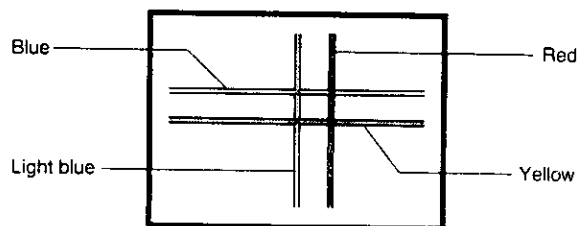

Fig. 2 Horizontal and vertical misalignment
- 4 If you see separate colored lines (Fig. 2 to 4), use the R/B, ◀, ▶, ▲, and ▼ keys on the remote control unit to make the red and blue lines disappear into the other lines. Pressing the R/B key alternates the controlled (red or blue) line. Pressing the ◀ key moves the vertical line to the left, while pressing the ▶ key moves the vertical line to the right. Pressing the ▲ key moves the horizontal line upward, while pressing the ▼ key moves the horizontal line downward. In figure 2, for example, press the R/B key to control the red line, and then press the ◀ key until the red line converges. Press the R/B key again to control the blue line, and then press the ▼ key until the blue line converges. Convergence is correct when all three colors (red, green, and blue) converge, producing single white lines.